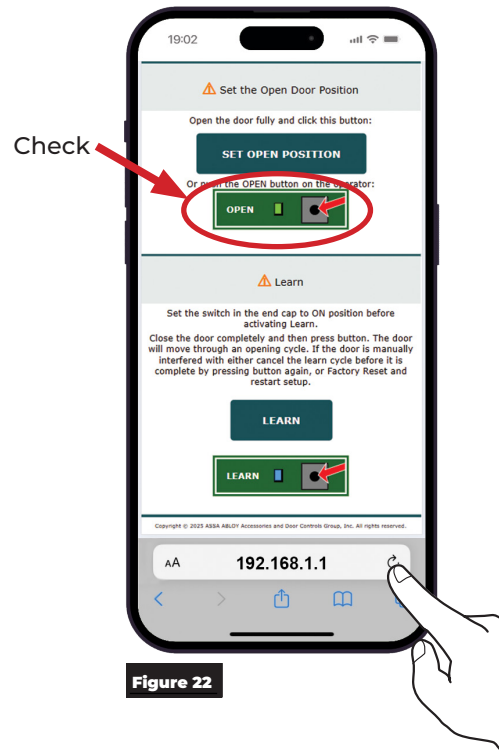

Figure 22
4. Refresh browser page to confirm all steps have ✓ indicating setup has been successful. (Figure 22)